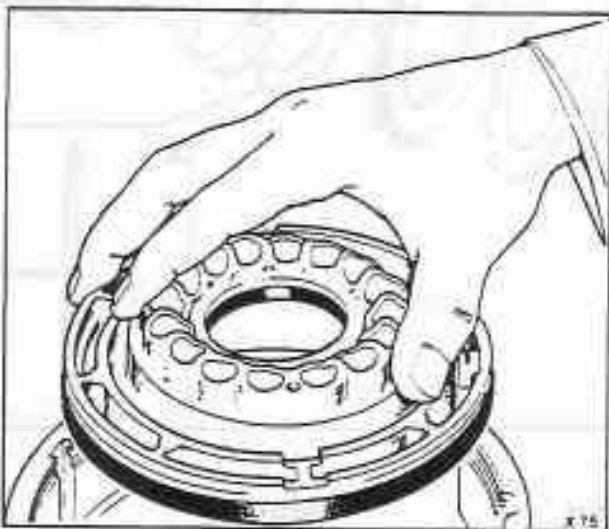

Fig. T18-7 Removing the forward clutch piston
7. Remove the piston from the clutch housing (see fig. T18-7).